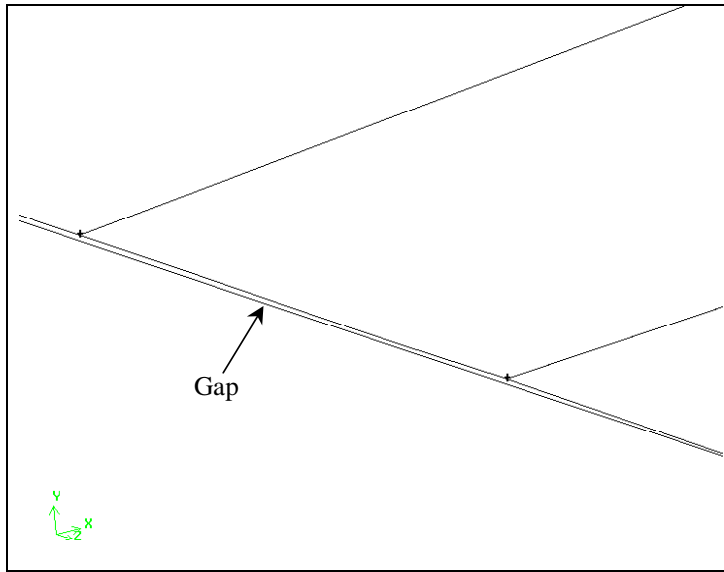

Figure 5-3: Zoomed region showing unconnected faces on sedan hood
Figure 5-3 shows the zoomed region, illustrating an example of the gaps that exist between the faces that comprise the surface of the sedan.
*In addition to gaps such as those shown in Figure 5-3, the geometry imported as-is from the IGES file contains a number of small edges that can inhibit meshing of the model. GAMBIT provides options on the **Import IGES File** form that allow you to eliminate many of the gaps and short edges during import. The next step in this tutorial illustrates the use of one such option—**Virtual Cleanup**.*